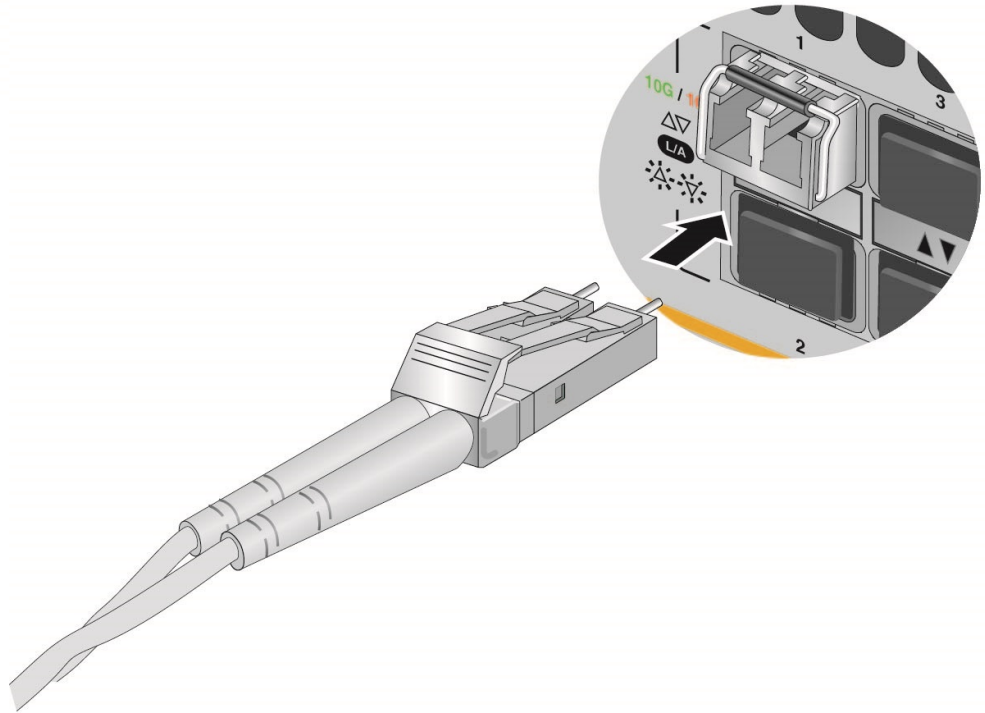

Figure 82. Connecting a Fiber Optic Cable to an SFP or SFP+ Transceiver
8. Connect the fiber optic cable to the transceiver, as shown in Figure 82 on page 171. The connector on the cable should fit snugly into the port, and the tab should lock the connector into place.